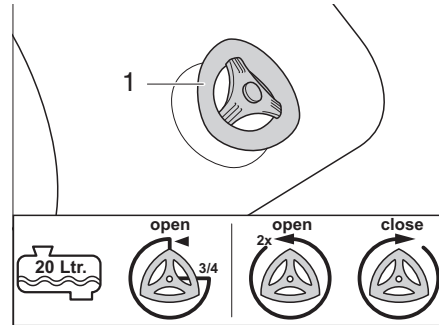

Fig. 370 Drain cock
- 1/2 full or less: Turn the drain cock (Fig. 370,1) 3/4 of a rotation anti-clockwise. The water drains off.
- 3/4 full and more: Turn the drain cock (Fig. 370,1) 2 rotations anti-clockwise. The water drains off.
- Close the drain cock (Fig. 370,1) clockwise.